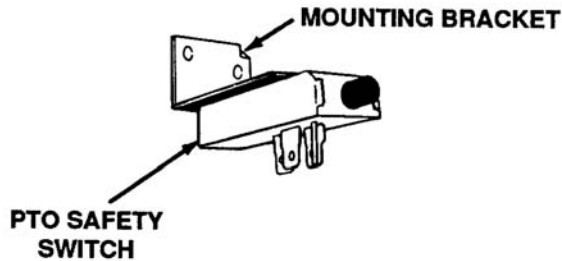

Figure 3-2. Mounting Bracket
1. The PTO safety switch mounting bracket was changed for added support to 14 gauge steel. This will retrofit 1990 production units. See Figure 3-2.